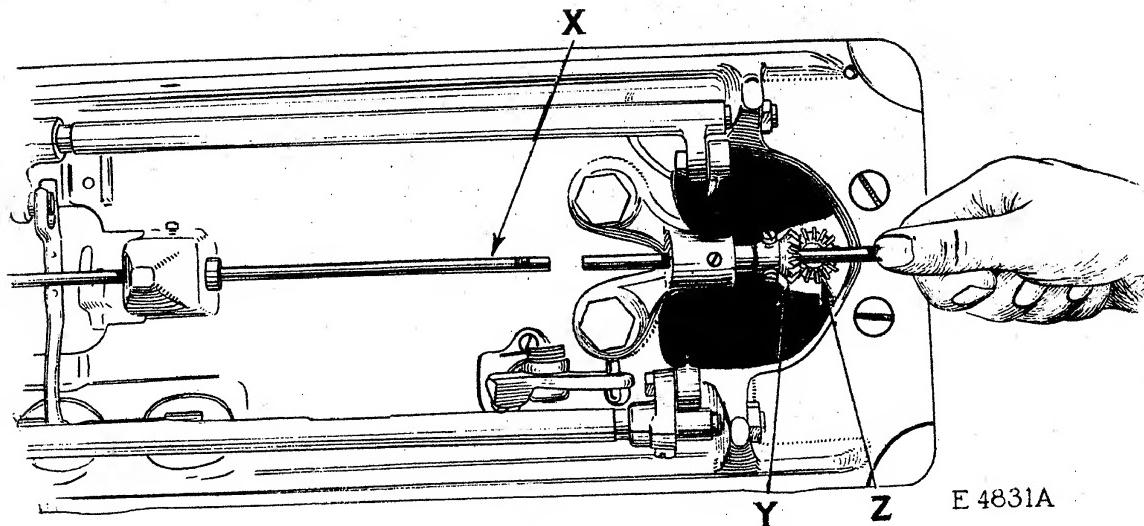

Fig.25. Removing and Replacing Sewing Hook Shaft
Before removing the hook shaft (X, Fig. 25) from the machine, the gears (Y and Z, Fig.25) should be marked with chalk or red pencil on one of the teeth of the gear (Y) and the space of the gear (Z) in which the marked tooth meshes. This is important, as the gears may become dislodged when removing the hook shaft, and the marks will enable you to retain the original relative positions of the gears.
To remove the hook shaft, loosen the two set screws in the gear (Y, Fig.25), then insert the new hook shaft into the gear
in Fig.25. By removing the old shaft in this manner, the relative positions of the gears (Y and Z) will not be disturbed.
When placing the new shaft in position in the machine, see that the flat portion near one end of the shaft is at the right so that one of the set screws in the gear (Y, Fig.25) will bear against it when the gear is fastened in position on the shaft. The shaft should be set so that its left end is flush with the front (left hand) side of the body of the sewing hook.